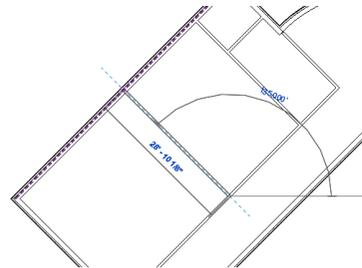

Figure 3-75 Completing the interior walls
11. Move the cursor up toward the left upto the exterior wall such that it subtend an angle of 135 degrees with the horizontal and click when the **Nearest** object snap appears on the exterior wall, as shown in Figure 3-75. Click to specify the endpoint; the wall is created.